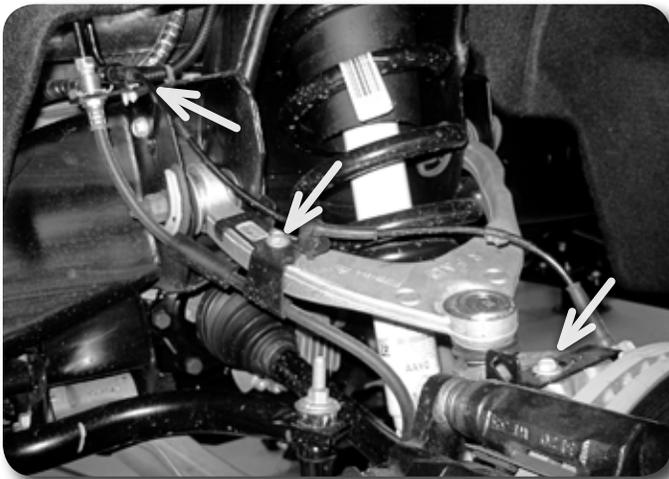

Figure 1
7. Disconnect the ABS line from the connector on the frame **Figure 1**. Remove the ABS line from the retaining clips at the frame, upper control arm and knuckle.
8. Disconnect the brake line bracket from the upper control arm **Figure 1**. Save bolt.